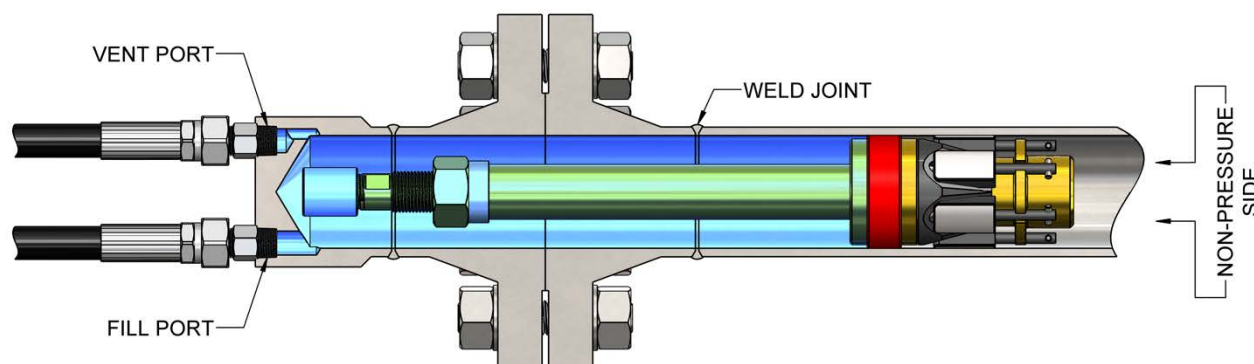

Figure 7: GripSafe Weld Neck Flange Hydrotesting
**CAUTION:** GripSafe ST IIB is designed to hold pressure originating from the installation side only. If pressure is anticipated on the other side of the plug, contact USA Industries for possible solution, see Figure 7. Disregarding this caution may result in the GripSafe ST Plug ejecting, which could lead to personnel injury, material loss, and damage.